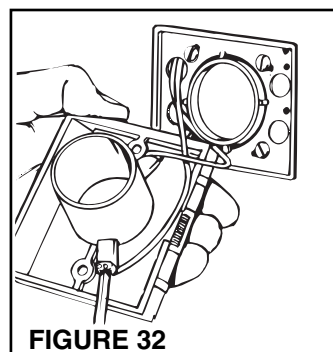

FIGURE 32
9. Attach the low voltage wires to terminal screws on back of wall inlet (Figure 32).